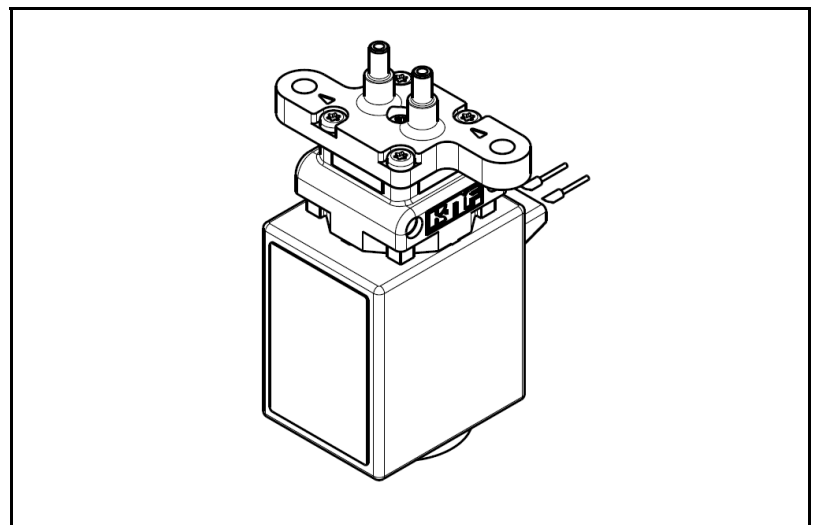

Fig. 4: Optimum installation position
- Installation position → Generally speaking, the pump can be installed in any position. For maximum precision and rapid venting, install pump as shown in the illustration (Fig. 4).